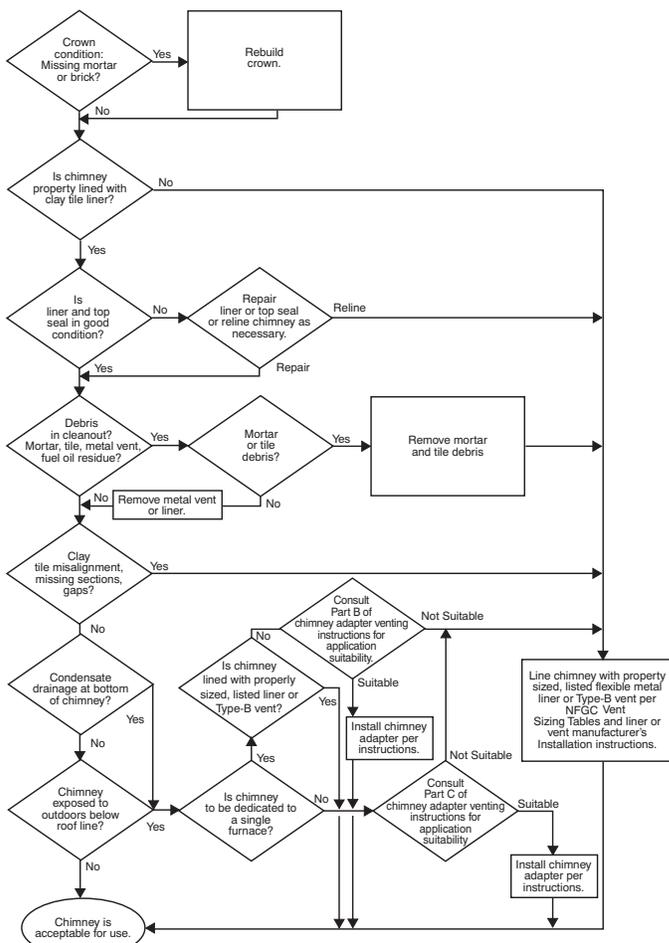

Fig. 30 – Chimney Inspection Chart
- Do not vent this appliance into an unlined masonry chimney. (Refer to Chimney Inspection Chart, Fig. 30).
Inspections before the sale and at the time of installation will determine the acceptability of the chimney or the need for repair and/or (re)lining. Refer to the Fig. 30 to perform a chimney inspection. If the inspection of a previously used tile-lined chimney: